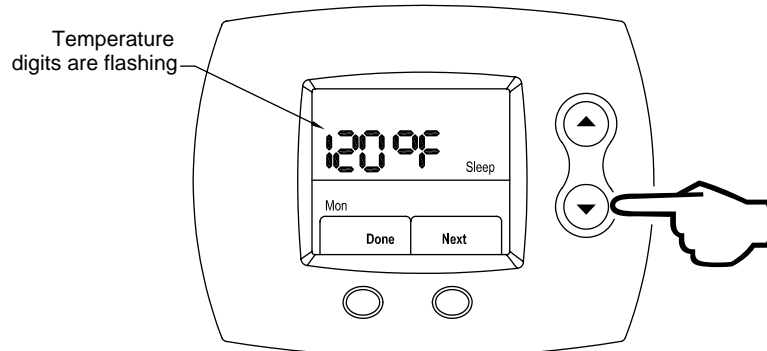

Figure 72
Step 25: Using the **UP** (increase water temperature) or **DOWN** (decrease water temperature) buttons, select the desired Sleep period water temperature. This is shown in Figure 72.